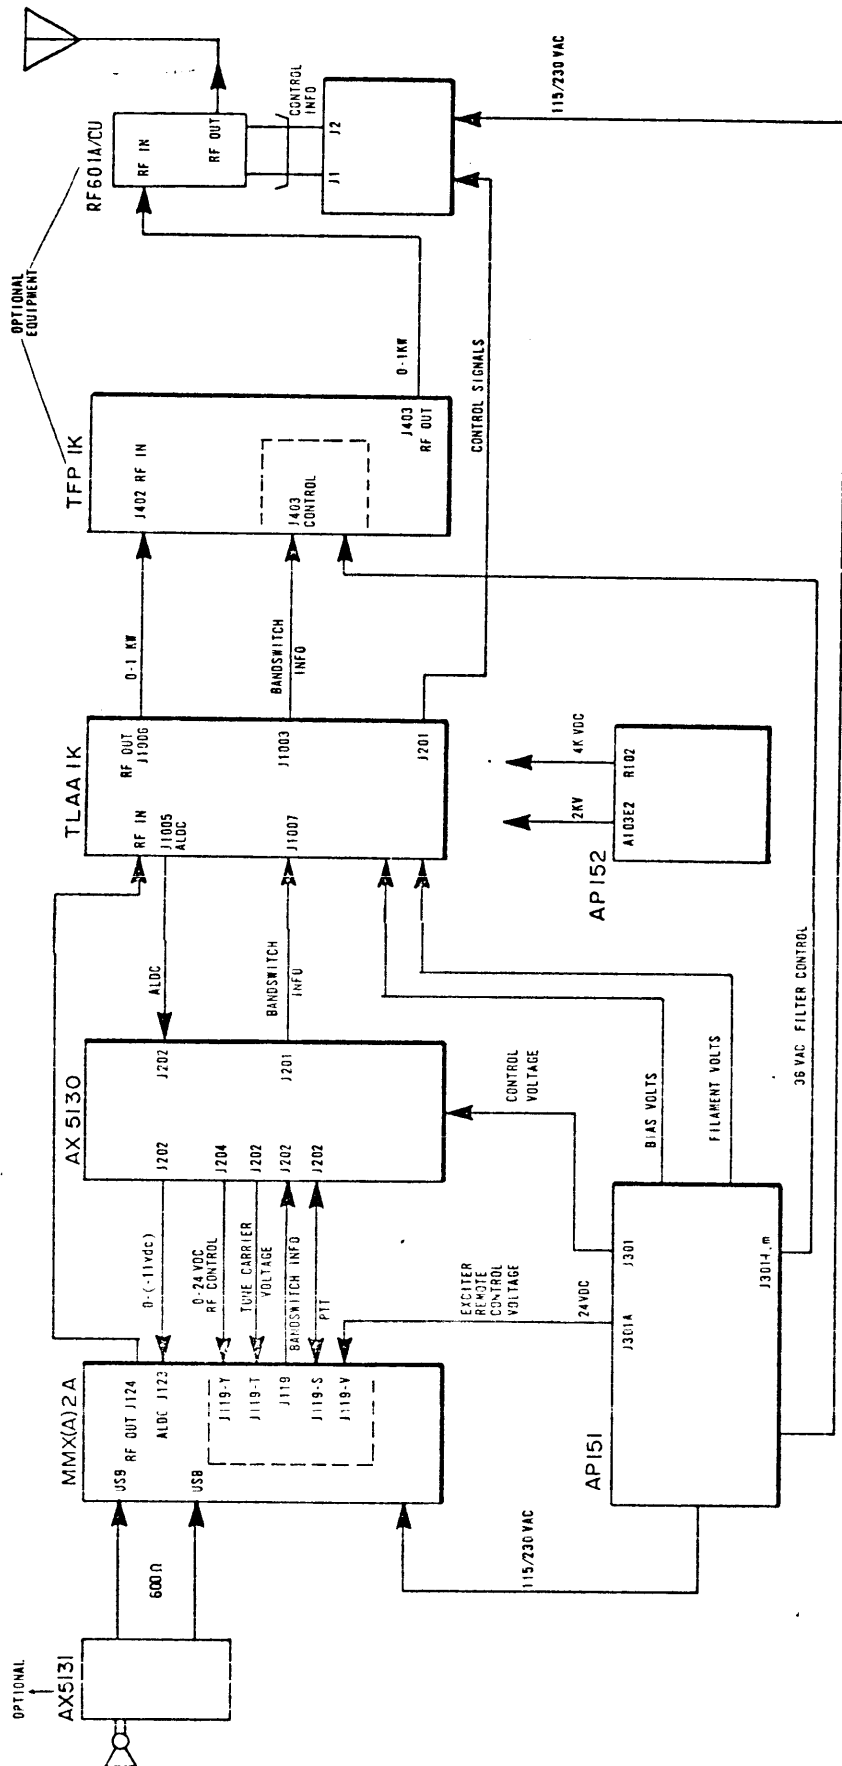

Figure 4-1. Functional Block Diagram, MRU-33 Marine Radio Unit
The transmitter as shown in figure 4-1, is divided into functional unit sections as follows: exciter, linear power amplifier, harmonic filter and antenna tuner. These functional sections are individual modular units interconnected and mounted in a single equipment cabinet. Principles of operation, maintenance procedures, diagrams and parts list are presented in the individual modular unit technical manuals. Principles of operation presented in this section will discuss the transmitter on a block diagram level and only to the extent that each effects the overall system.
The transmitter as shown in figure 4-1 illustrates control circuitry inputs and outputs between the modular units that comprise the one kilowatt automated transmitter.
- a. Overall block diagram (Section 4, figure 4-1).